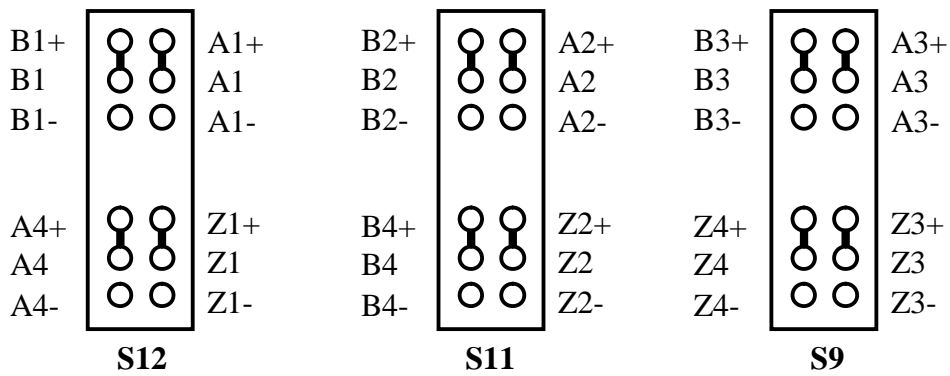

Figure 5.4
5.3.2.4 The polarity of the **A**, **B**, **Z** signals inside the NC210-25 card channel for encoders "1"-**4**" is selected by using jumpers **S11**, **S12**, **S9**. The positive polarity of direct encoder signals **A**, **B**, **Z** is set by default, as it is shown in Figure 5.4.